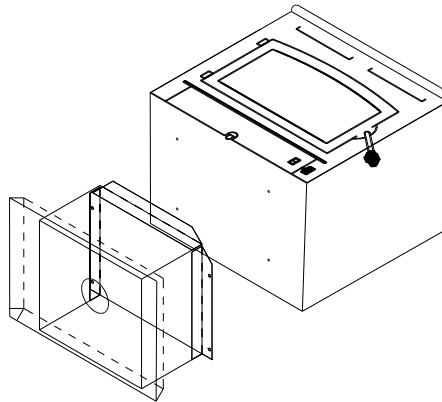

Figure 4
5. If pedestal kit is being used, open the corresponding freestanding kit and obtain the stand. Place the stand against the bottom of the heater (angle side to heater) at the marked line. Center the stand left and right and mark screw locations on bottom through outer holes of stand mounting angles. Set stand aside and drill four 7/32" holes in heater bottom. (See Figure 4.)